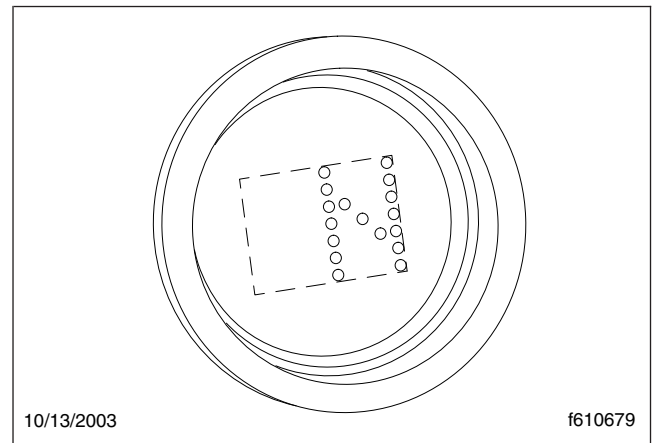

Fig. 15.12, Neutral Display
Neutral (N) is directly below R on the four-position selector switch located at the end of the SmartShift control lever. To select N, press in the neutral lock button and move the selector switch to the position below R. When neutral is selected, the letter N displays on the current gear indicator. See Fig. 15.12.